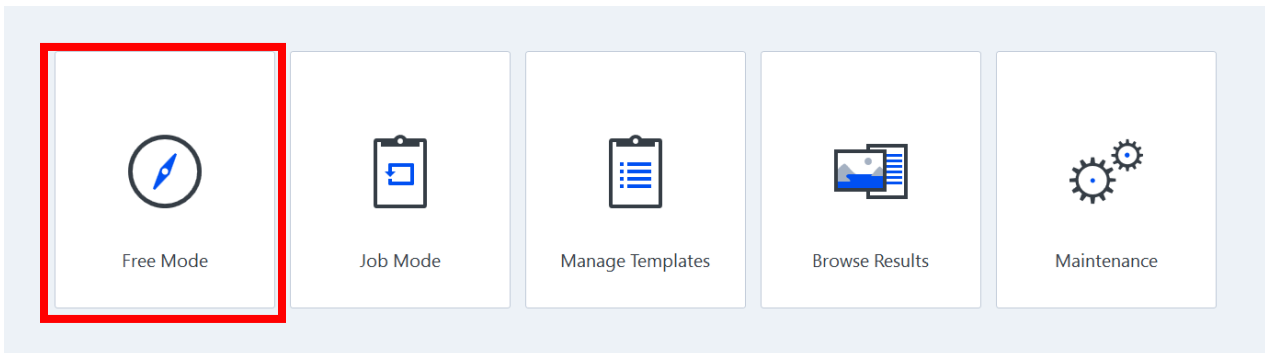

Figure 6. Software Mode Selection
5. Select "Free Mode" as in Figure 6.